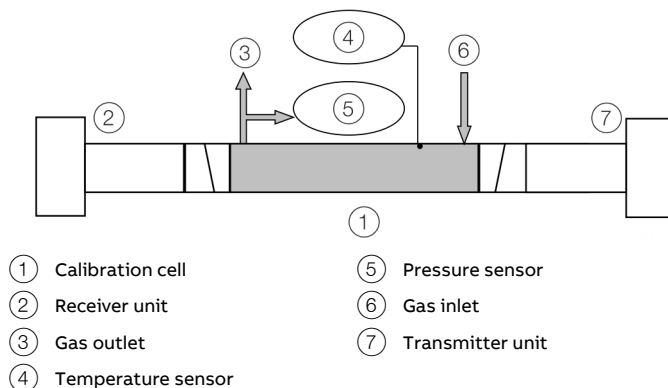

Figure 47: Calibration set
- Install the transmitter and receiver units on the test cell, see Figure 47.